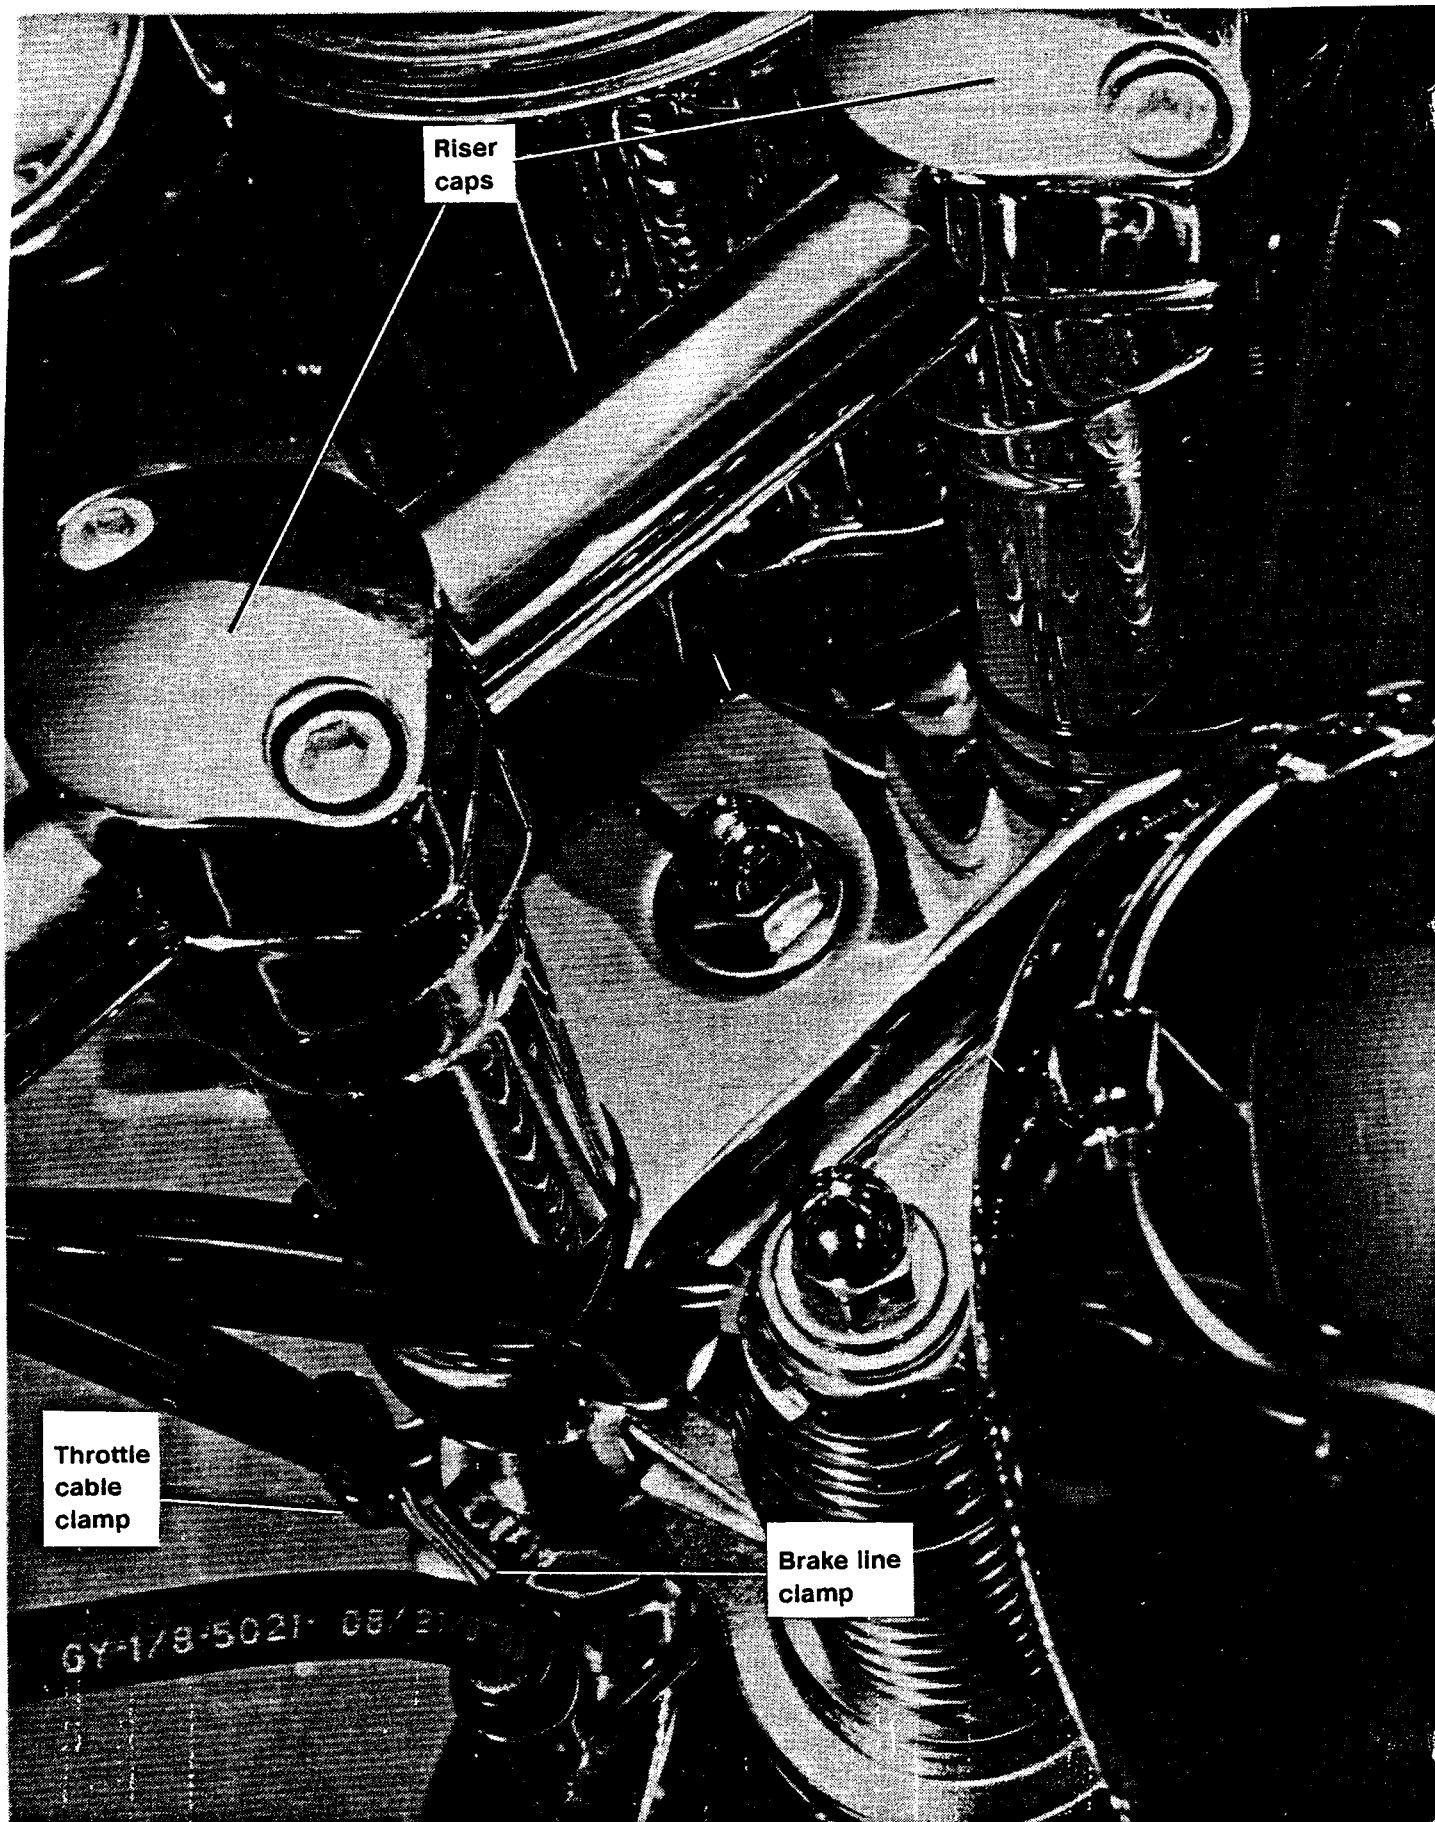

Figure 1. FXSTS - Clamps and Riser Caps
- See Figure 1. The vehicle is shipped with the brake line clamp on the brake line and the throttle cable clamp on the throttle cables.